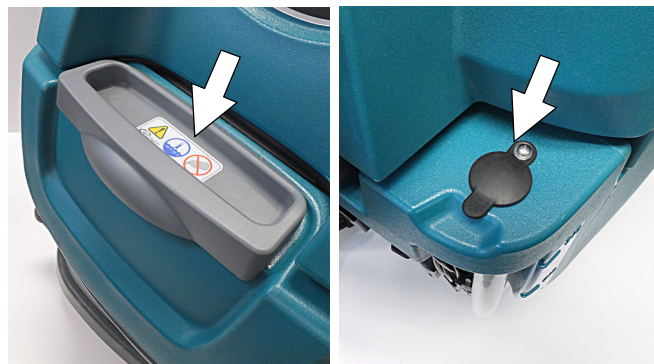

FIG. 21
2. Replace the front and rear fill-port cover after filling solution tank (Figure 21).